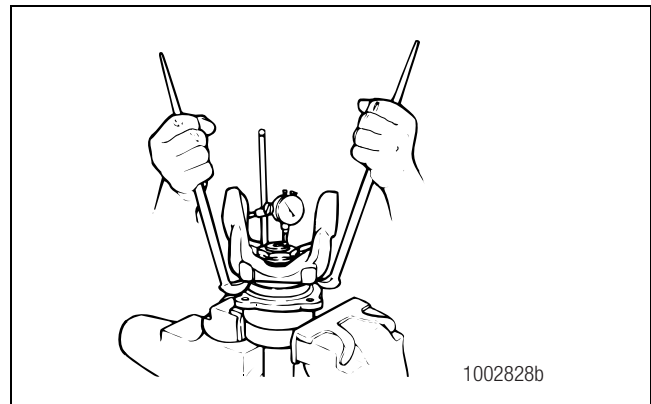

Figure 5.7
5. Install a dial indicator so that the base of the indicator is on the mounting flange of the cage. The pointer of the indicator must touch the yoke or flange end of the thru-shaft. Set the dial indicator to ZERO. Figure 5.7.